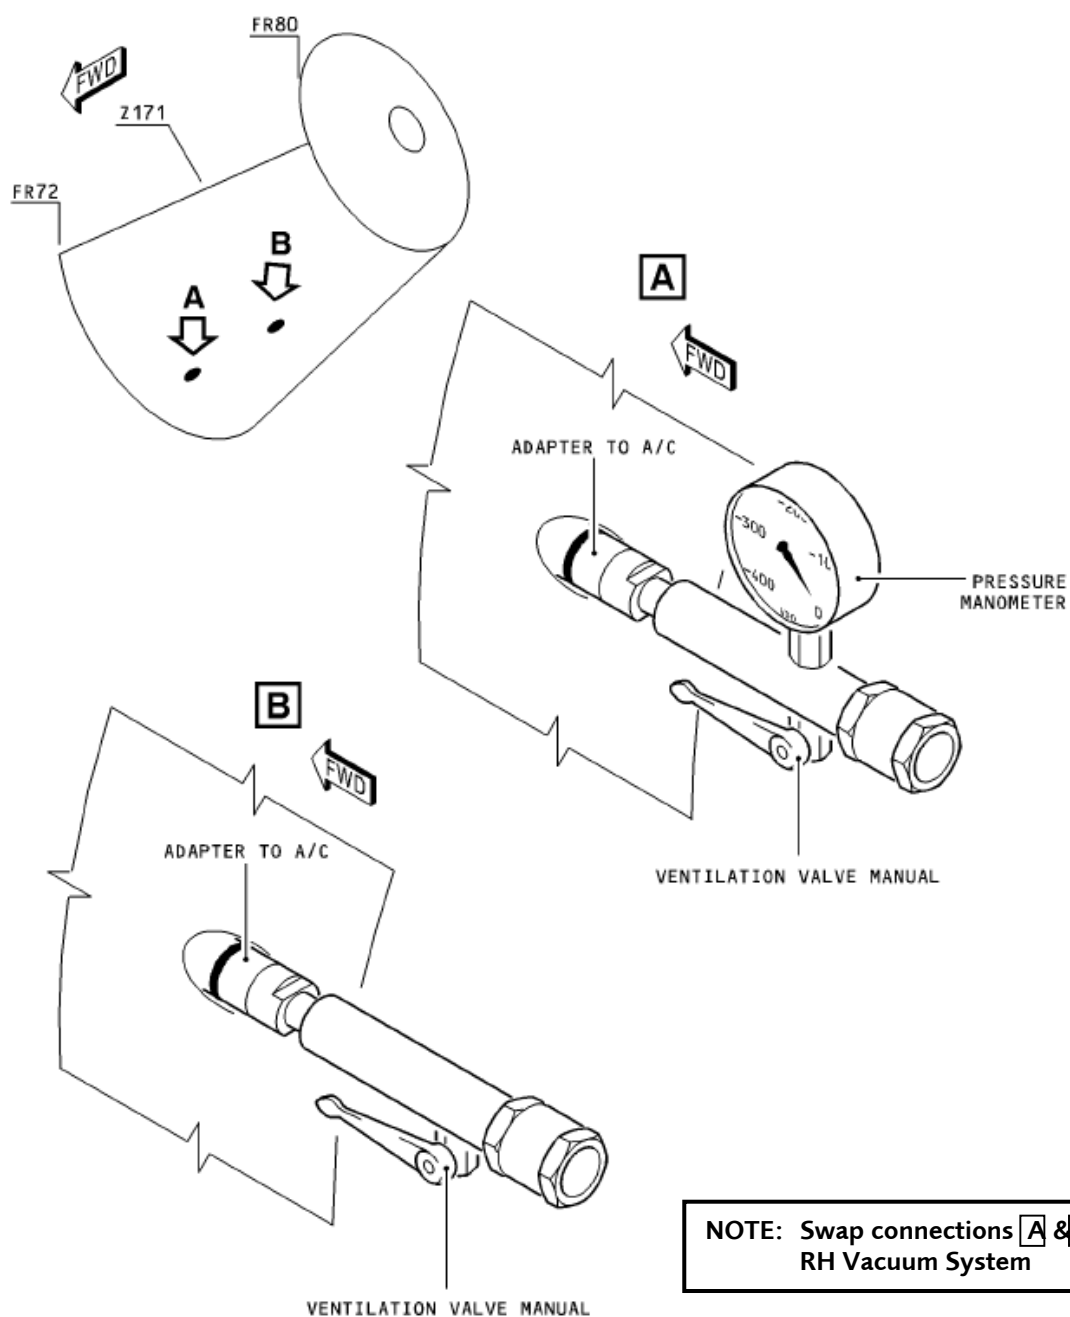

Figure 1 Installation of Leak Tester for Testing LH Toilet System (Reference C, 38-31-00, pg.513)
- B. Install Leak Tester to test the LH toilet system IAW the following instructions. See Figure 1 in Appendix B for installation layout.